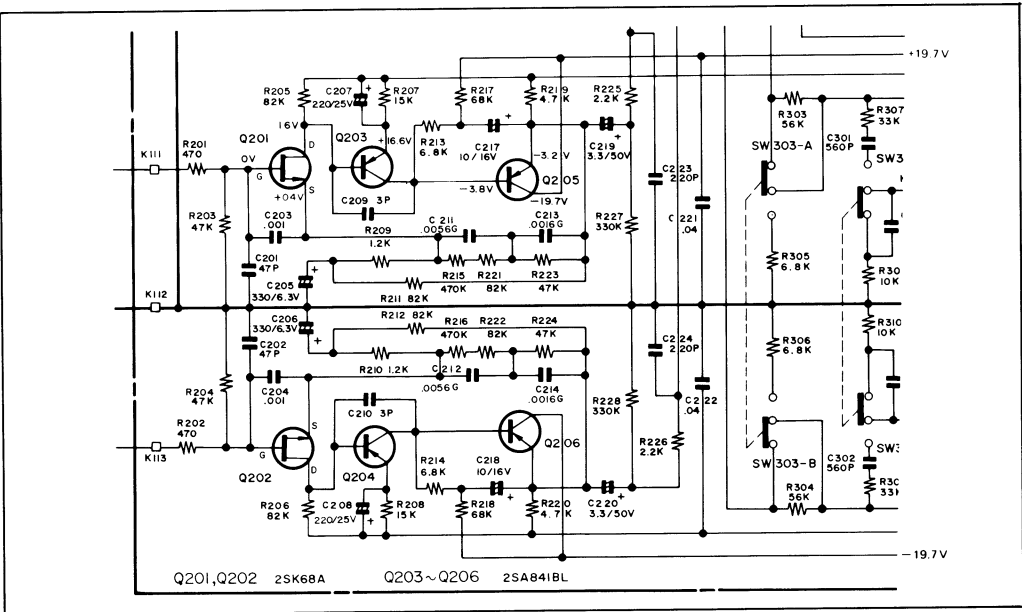

Figure 9
■EQUALIZER CIRCUIT (See Figure 9)